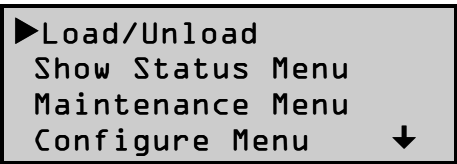

Figure 2-5 Main Menu
2. At the Default Screen, press the **Enter** button. The display will show the Main Menu, as in Figure 2-5.